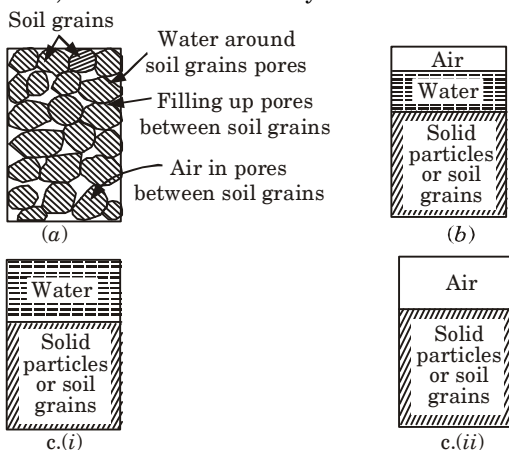

Fig. 1.6.1. (a) Actual soil mass, (b) Representation of soil mass by three-phase diagram.
6. The three constituents of a soil mass do not occupy separate spaces but are blended together forming a complex material as shown in Fig. 1.6.1(a).
9. In both these cases, the soil system reduces to a two-phase system as shown in Fig. 1.6.1(c).